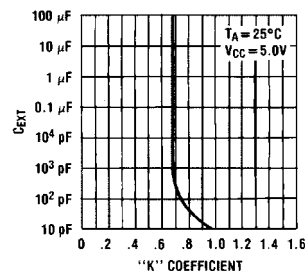

FIGURE 5.
6. The "K" coefficient is not a constant, but varies as a function of the timing capacitor CX. Figure 5 details this characteristic.
7. Under any operating condition CX and RX must be kept as close to the one-shot device pins as possible to minimize stray capacitance, to reduce noise pick-up, and to reduce |X R and L di/dt voltage developed along their connecting paths. If the lead length from CX to pins (10) and (11) is greater than 3 cm, for example, the output pulse width might be quite different from values predicted from the appropriate equations. A non-inductive and low capacitive path is necessary to ensure complete discharge of CX in each cycle of its operation so that the output pulse width will be accurate.